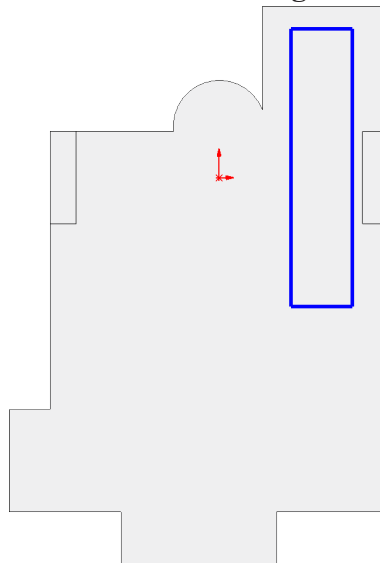

Fig. 25
Step 4. Sketch corner rectangle, **Fig. 25**.